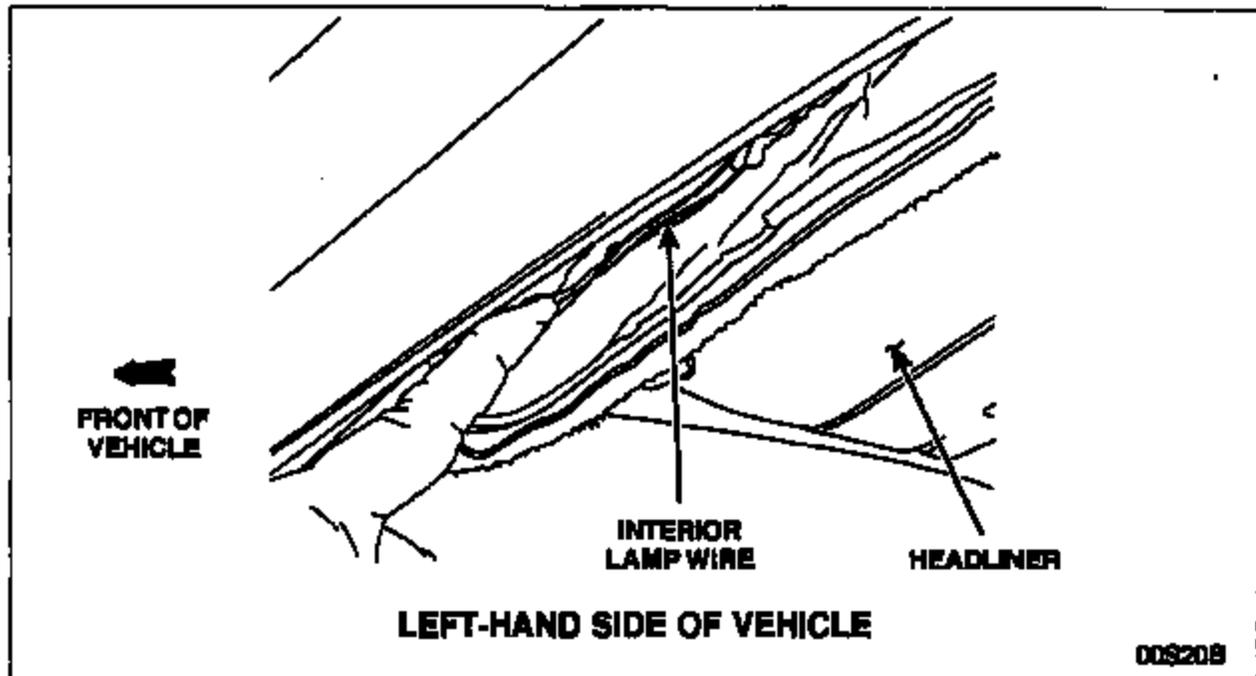

FIGURE 2
4. On the left side of the vehicle, the interior lamp wire is glued to the headliner. Break the glue bond and move the wire and the washer hose (if equipped) up between the headliner and the roof panel. Be sure to move the wire and hose far enough out of the way to avoid damage when trimming the headliner. See Figure 2.